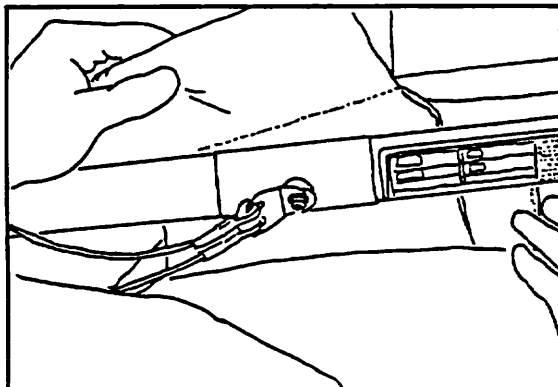

Figure 67
12) Slide the protective pad on the control bar bag under and around the keel tube at the rear wire bolt. Install the keel end protector cover. (Figure 67, 68)